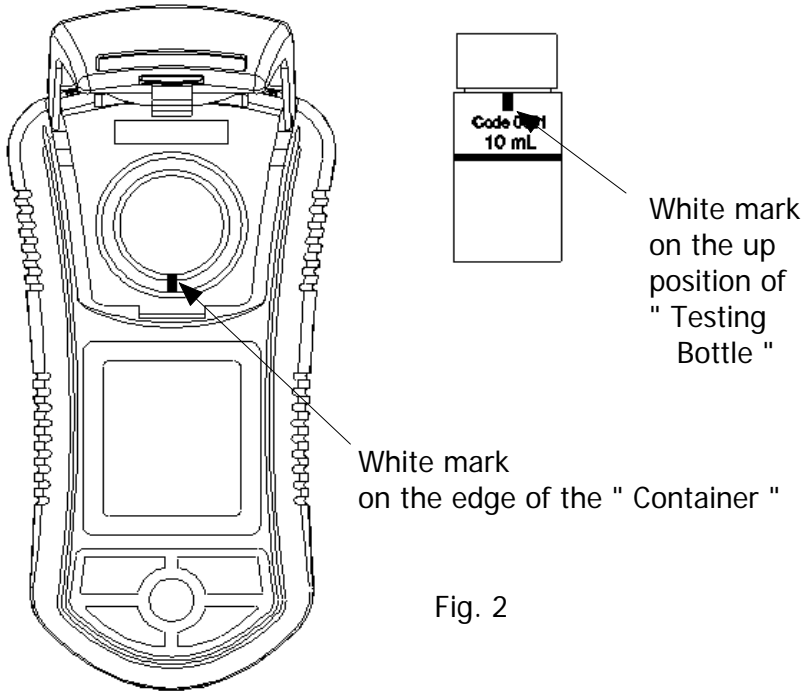

Fig. 2
- 1) There is a " White mark " on the edge of the " Container " (3-2, Fig. 1) and also on the up position of " Testing Bottle " (3-9, 3-10, 3-11, 3-12, Fig. 1), refer Fig. 2.